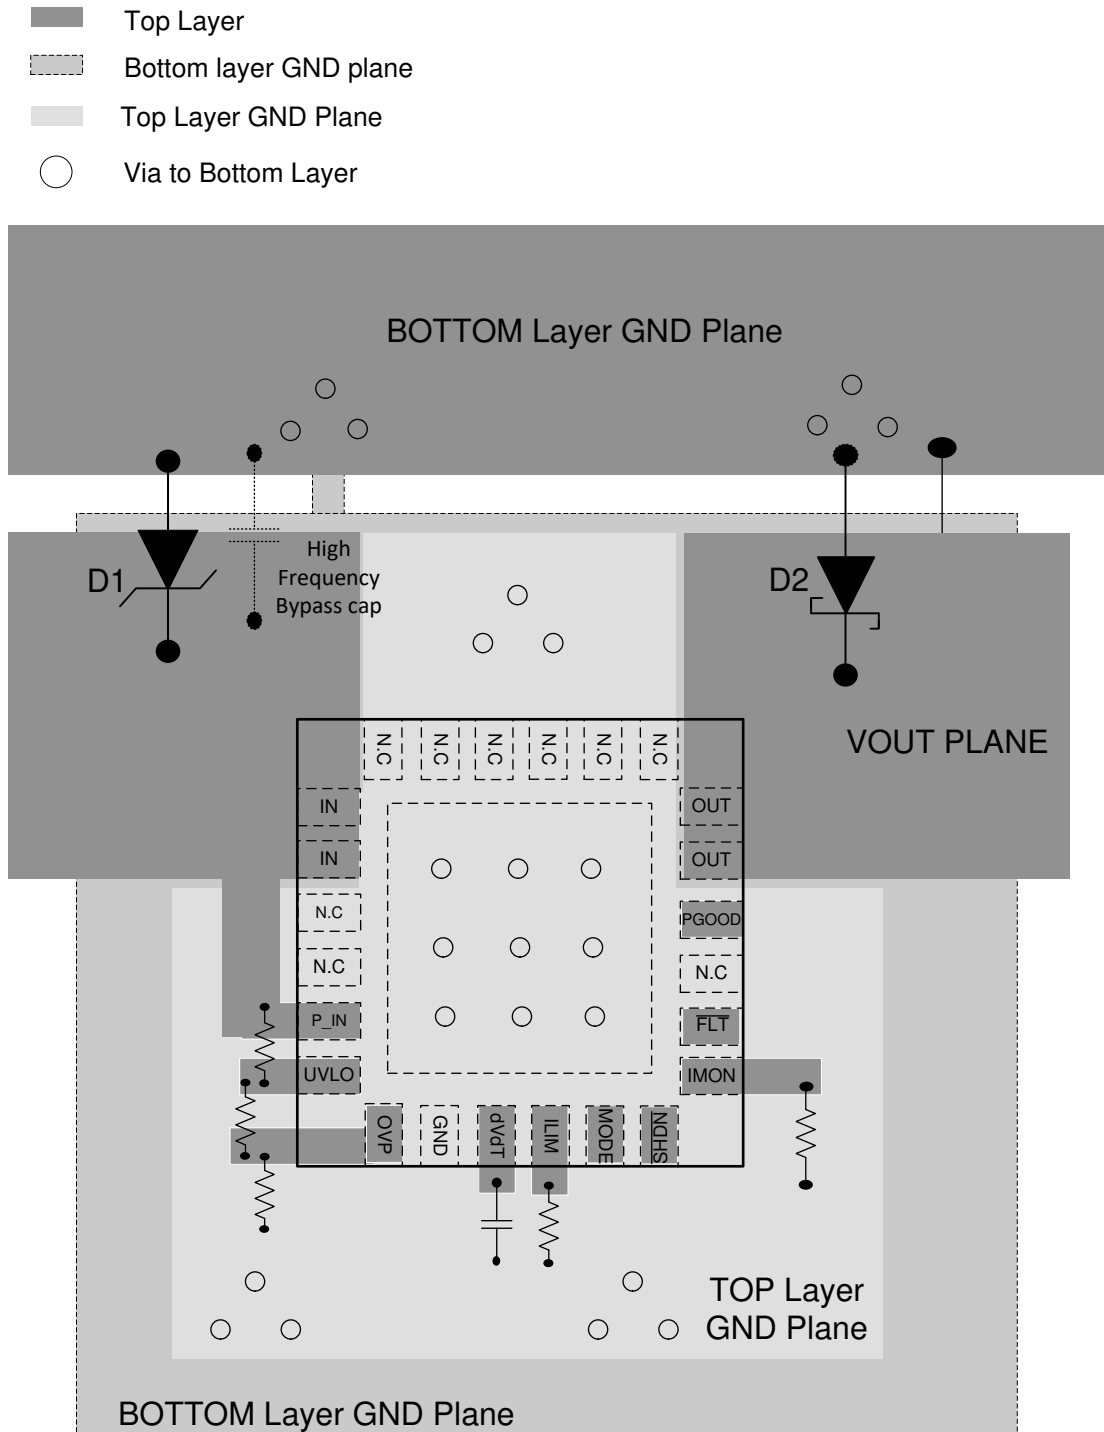
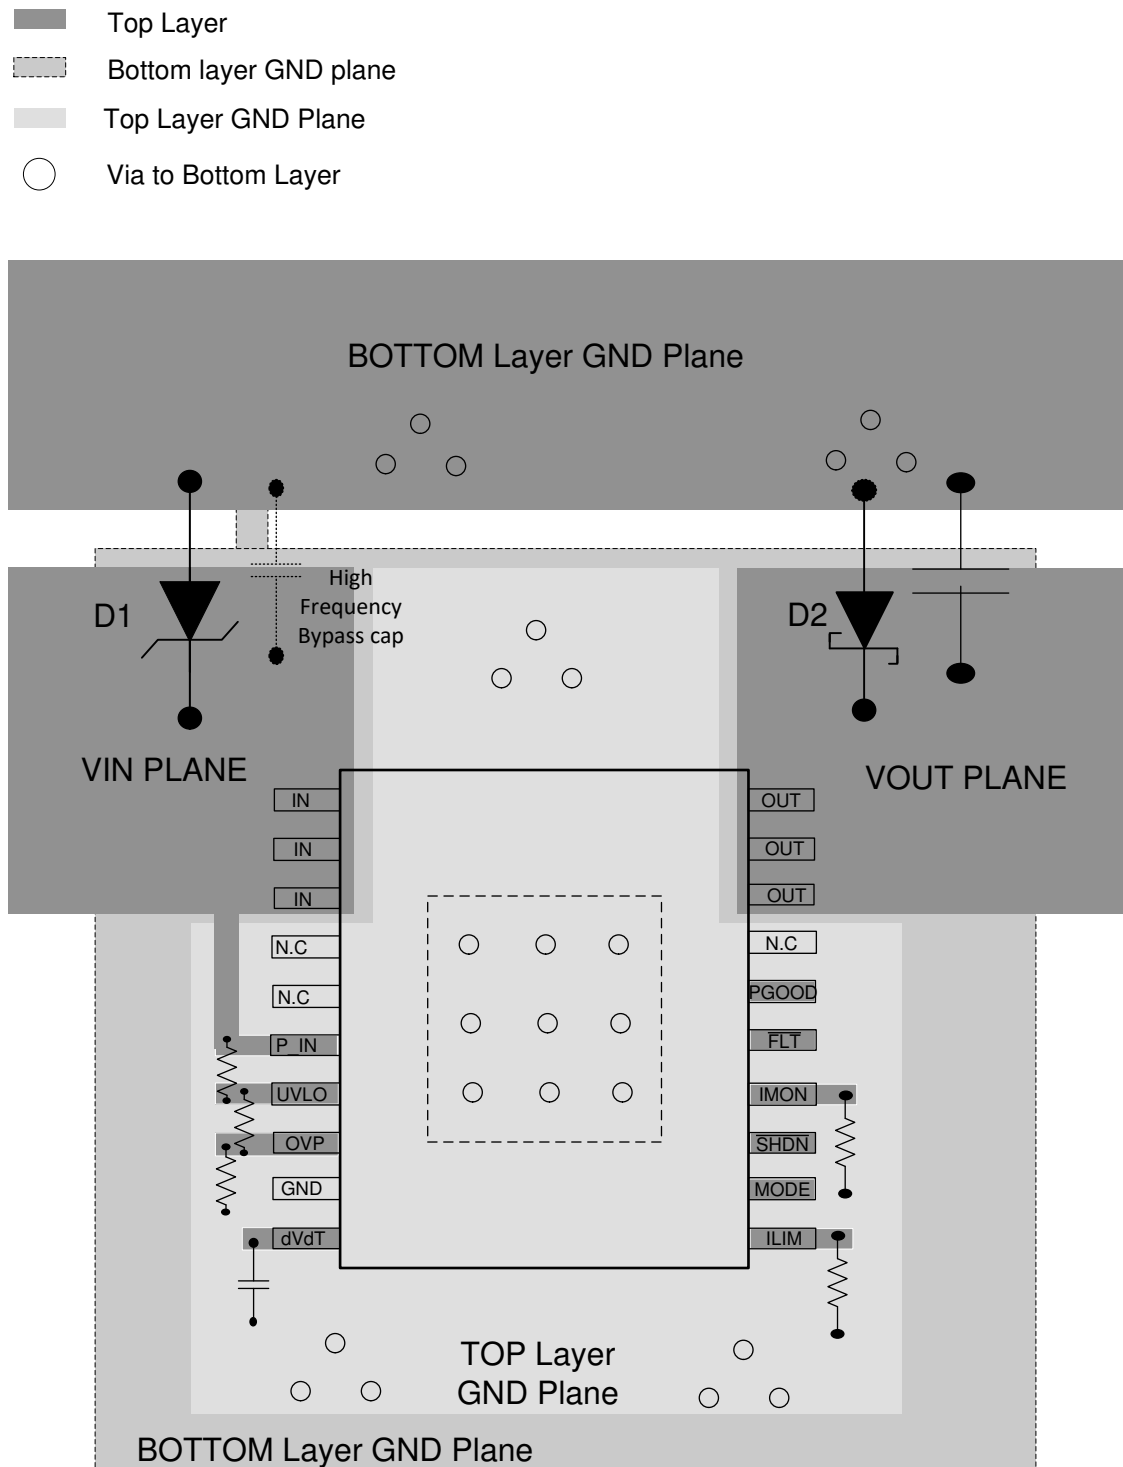

Figure 9-11. PCB Layout Example With QFN Package With a 2-Layer PCB
Figure 9-12. Typical PCB Layout Example With HTSSOP Package With a 2-Layer PCB
- High current carrying power path connections must be as short as possible and must be sized to carry at least twice the full-load current. See Figure 9-11 and Figure 9-12 for a typical PCB layout example.